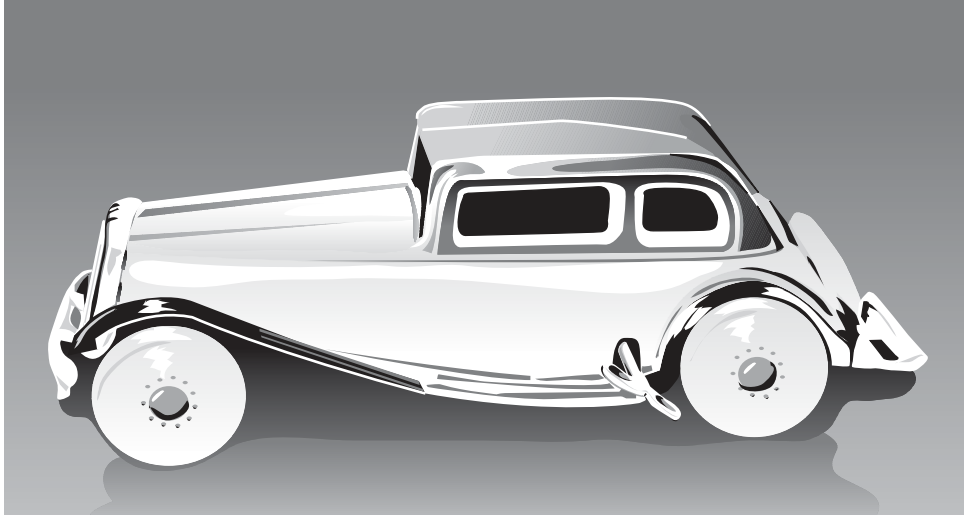

Fig. 9
- 11 Fig. 9 shows a toy car made in the 1930s. Pieces of tinplate were pressed and fabricated to make the car. Detail was added to the surface of the tinplate using a lead based paint.
- (c) Identify and explain **three** safety hazards linked with tinplate toys of the type shown in Fig. 9. [9]